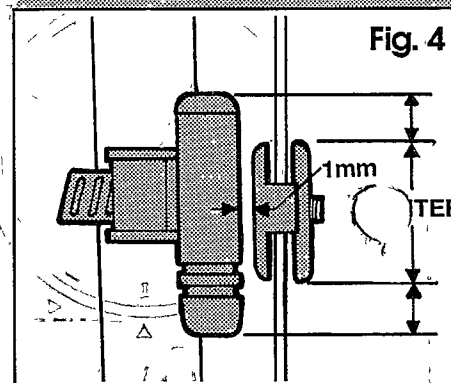

Fig. 4
2. Align the sensor with the magnet so that when the magnet passes by the speed sensor, it passes through the center portion of the sensor (Fig. 4).